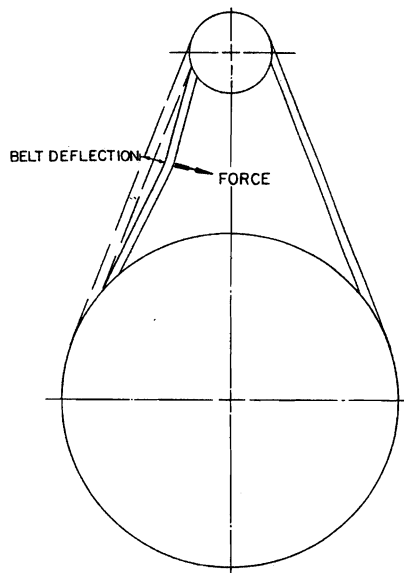

FIGURE 1
4. Apply the force, perpendicular to the center of the span, (refer to Figure 1) required to deflect the belt the distance shown on Chart 1. The force can be applied by means of a simple spring scale or a commercially available V-belt tension tester. The tension tester will provide scales for reading both the required force and the distance of belt deflection.